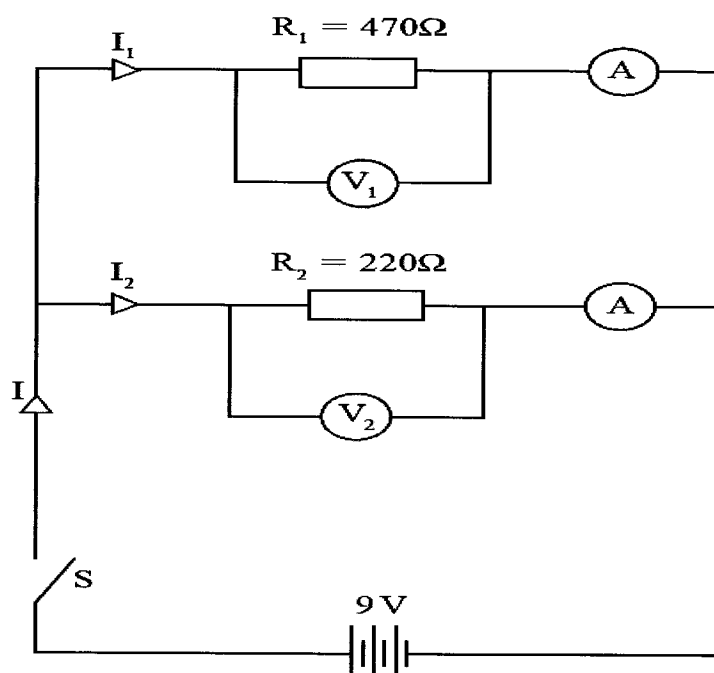

Figure 1
- (a) Using the materials and equipment provided, connect the circuit shown in **Figure 1** on a bread board. (3 marks)